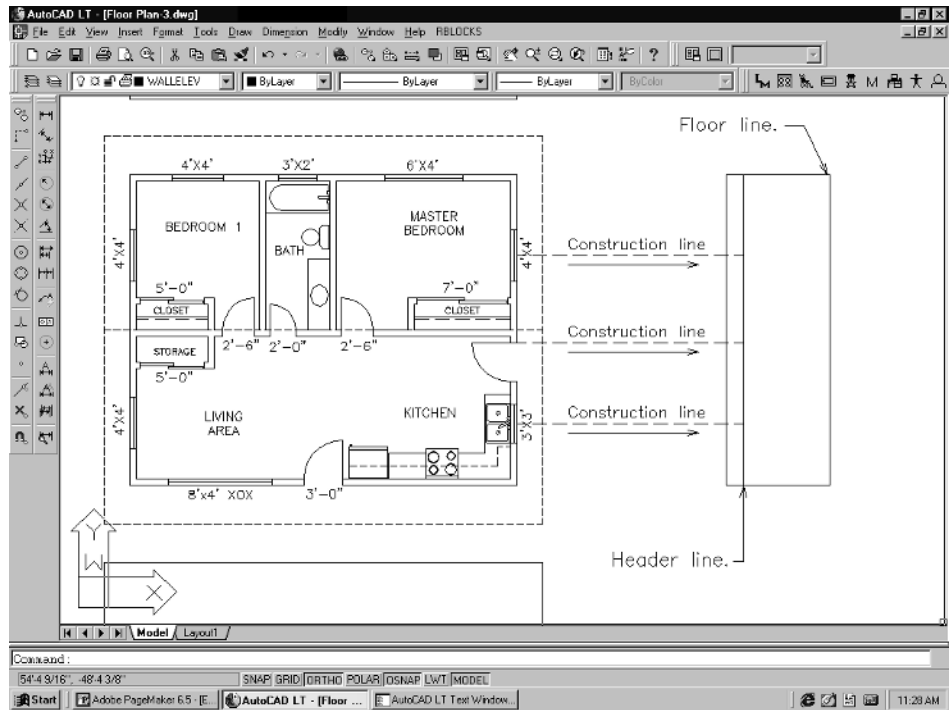

Figure 4-21
4. Draw construction lines from the window centers to the header line. Also, draw a line from the end of the door opening to the header line, as shown in Figure 4-21. These will be used for window and door placement after the elevation has been rotated into a horizontal orientation.